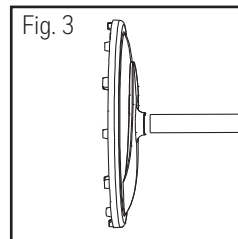

Fig. 3
2. Gently place base on its side. (Fig. 3)